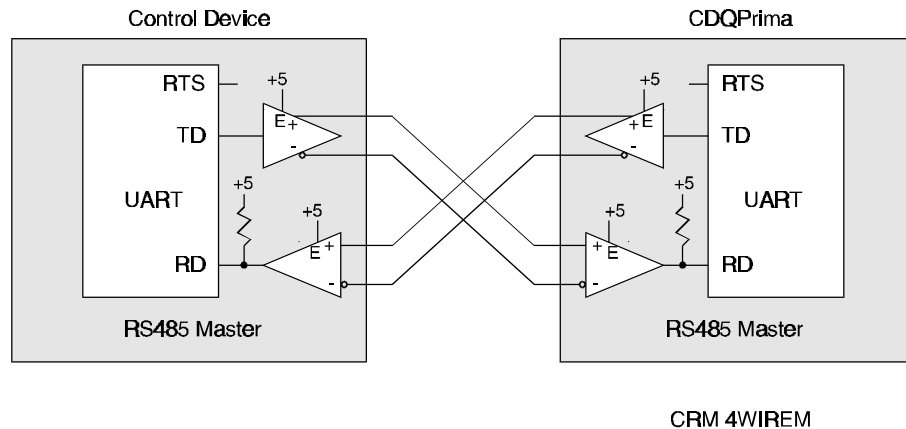

Figure 5-1 RS485 Master-to-Master interconnection
Fig. 5-1 shows two RS485 devices in a point-to-point connection. Notice that the transmit data port (TD) from one device is connected to the received data port (RD) of the other device.